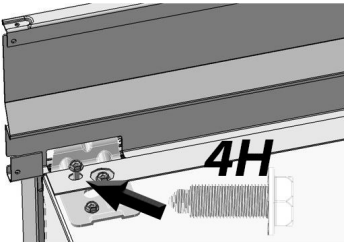

Fig. 12
- d. Install the Top Trim by fastening two 4H screws along the base of the trim with a 5/16" socket wrench (Fig. 12). Screw through the 1H bracket in step 8a to properly level the Top Trim.